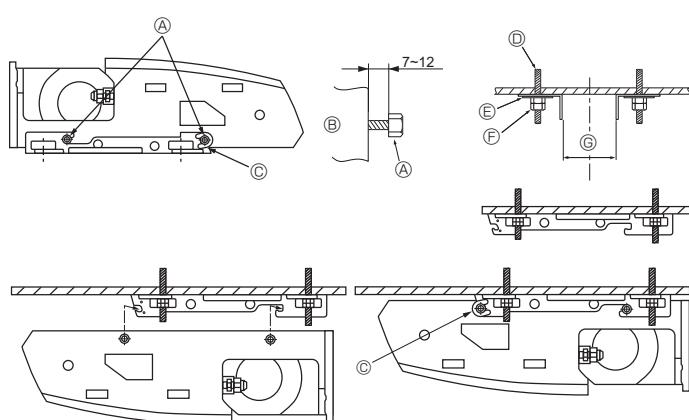

Fig. 3-5
⑭ Forcing open the intake grille or opening it to an angle of more than 120° may damage the hinges.
3.3. Installing the indoor unit (Fig. 3-5)